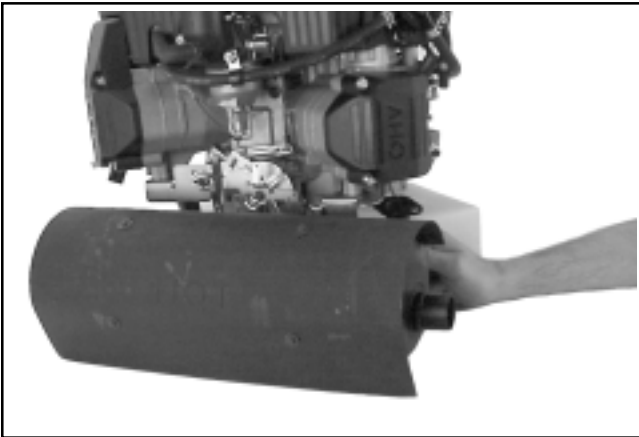

Figure 9-7. Removing Muffler.
1. Remove the muffler or exhaust system and attaching hardware from the engine. See Figure 9-7.